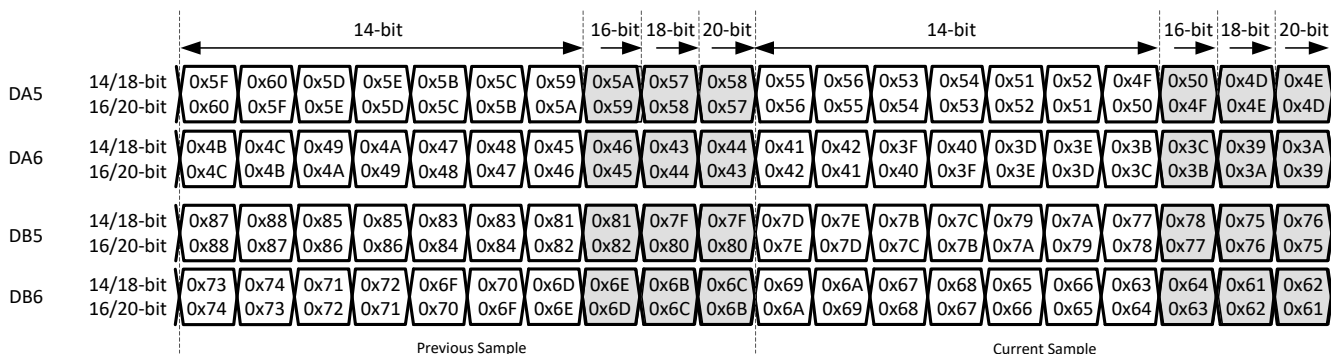

图 8-38. 2-wire output bit mapper
**2-wire mode:** in this mode both the current and the previous sample have to be used in the address space as shown in 图 8-38 below. The address order is different for 14/18-bit and 16/20-bit. Note: there are unused addresses between samples for resolution less than 20-bit (grey back ground), which can be skipped if not used.